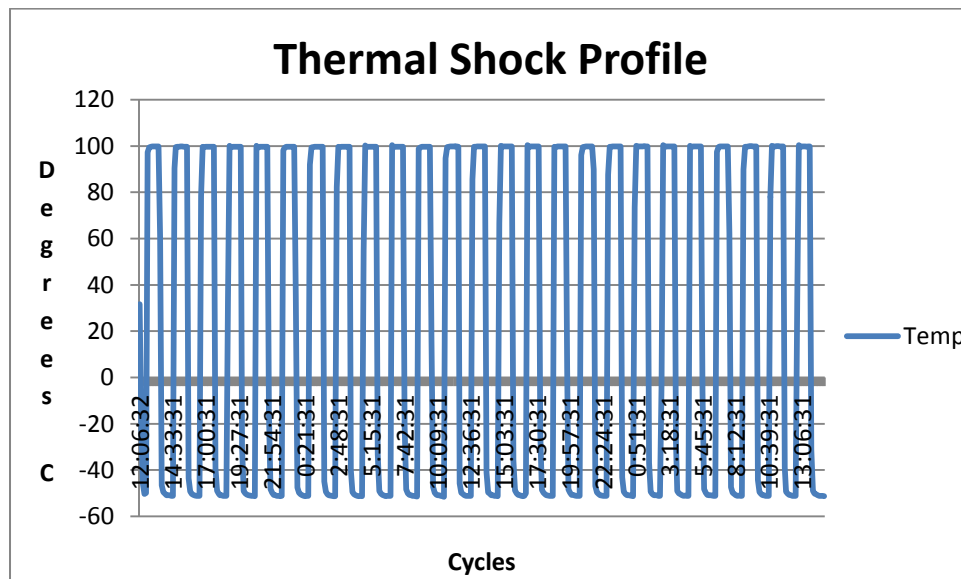

Figure 4 – Thermal Shock Test Profile
5.3. TEST SETUP PHOTOS**Figure 4 – Test Setup****5.4. ACCEPTANCE CRITERIA**